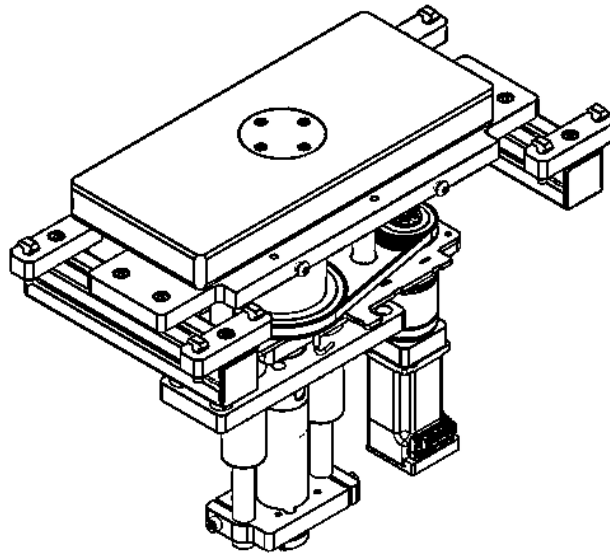

Figure 2: PLR
Step 1: Undo the M8 BHCS from the mounting plate as shown in Figure 2. Raise the guards up until the mounting holes line up with the holes in the mounting plate. Install the BHCS and tighten.